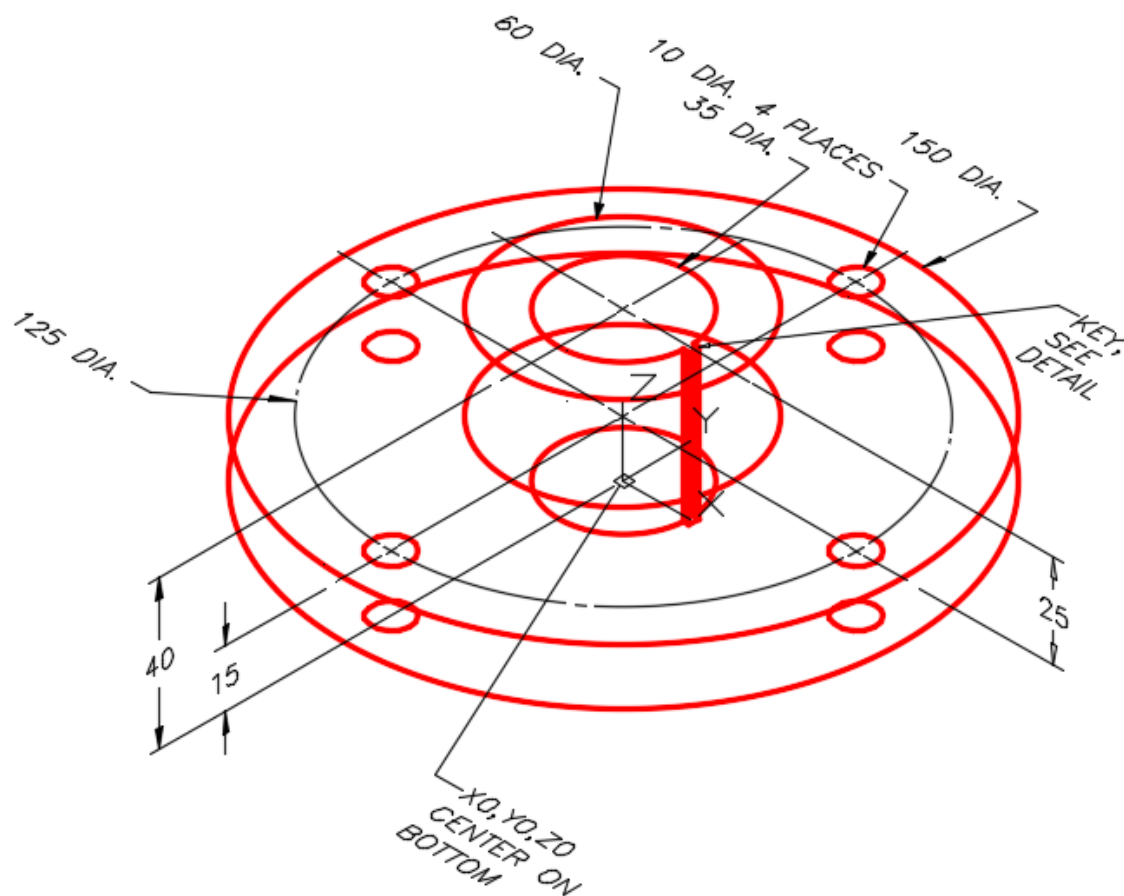

Figure Step 2A
Step 2 On layer: Solid_3, draw a solid model of the object. (Figure Step 2A, 2B, 2C, and 2D)